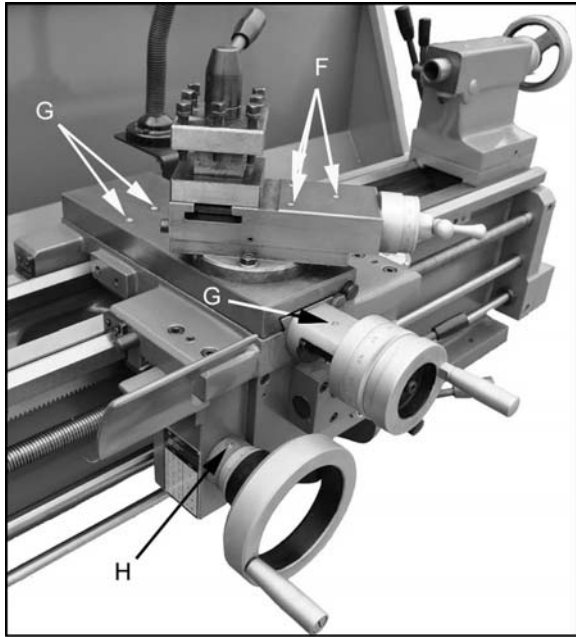

Figure 8
9. **Compound Rest** - Lubricate three ball oilers (F, Fig. 8) once daily with Mobil DTE® Oil Heavy Medium.
10. **Cross Slide** - lubricate four ball oilers (G, Fig. 8) once daily with Mobil DTE® Oil Heavy Medium.
11. **Longitudinal Feed Handwheel** - Lubricate ball oiler (H, Fig. 8) once daily with Mobil DTE® Oil Heavy Medium.